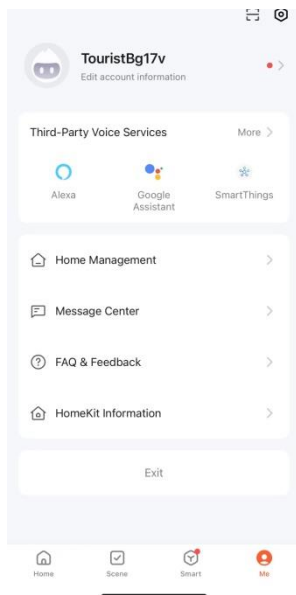

Figure Q-5
(5) Alexa/Google Assitant/Smart Things operations (See Figure Q-5)